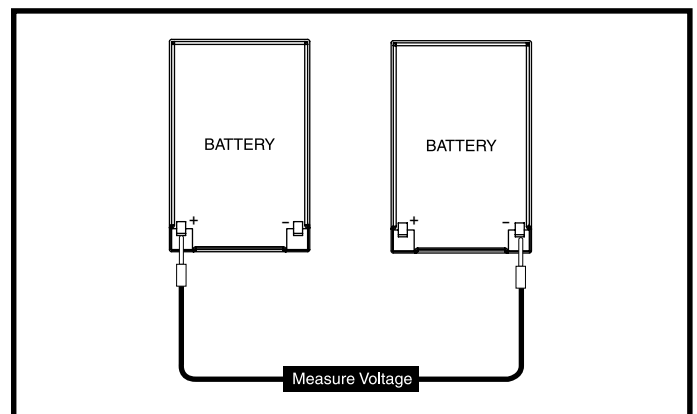

Figure 4. Outermost Battery Terminals
6. Measure voltage across the two outermost battery terminals. **See figure 4.**